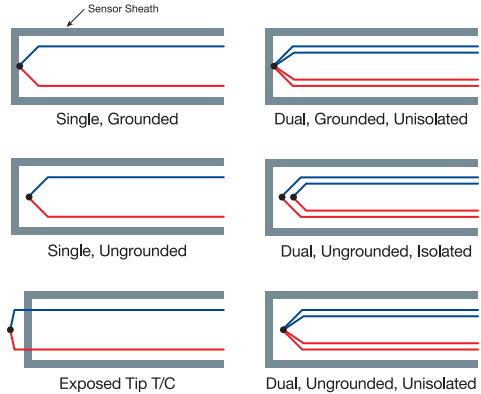

Figure 3.2.4.3.1a – T/C Junction Configurations
- Consider a dual element design where redundancy, the Hot Backup® feature or Sensor Drift Alert may be a benefit or where the measurement may be connected to two separate systems or devices. Dual elements can be isolated or unisolated configurations. Isolated junctions may not read identical temperatures but can identify drift due to poisoning of one of the elements. If one junction fails, the second junction is not necessarily affected. Un-isolated junctions measure identical temperature to increase the integrity of the measurement point. However, if one junction fails, it is likely that both junctions will fail at the same time. Refer to Figure 3.2.4.3.1a.